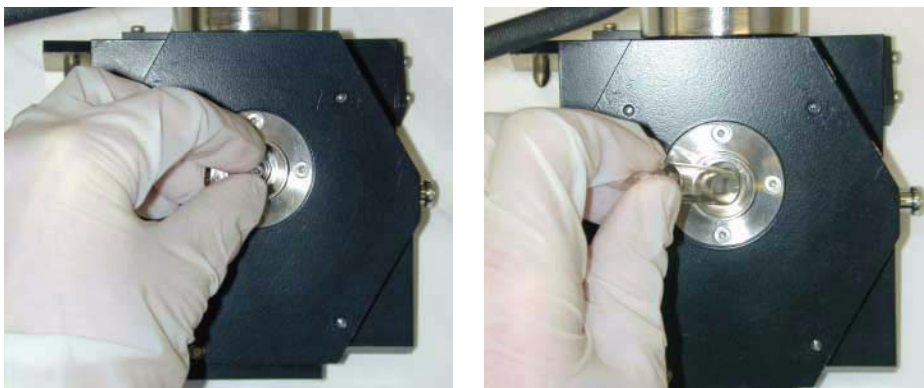

Figure 41 Grasp end of UV lamp (left) and pull lamp out of lamp holder (right)
- a Grasp the exposed end of the lamp with gloved fingers and gently rock the lamp back and forth while pulling the lamp out of the lamp holder. See Figure 41.